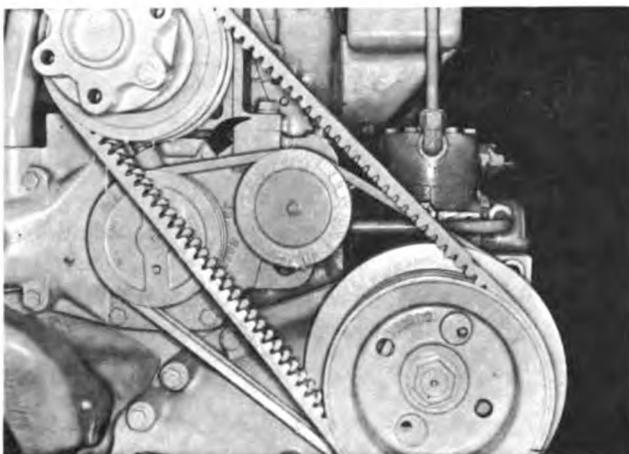

Fig. 2-4, (N11974). Water pump — with idler
1. Loosen the capscrews and lockwashers or locknut securing the idler pulley to the bracket or water pump. Fig. 2-4.